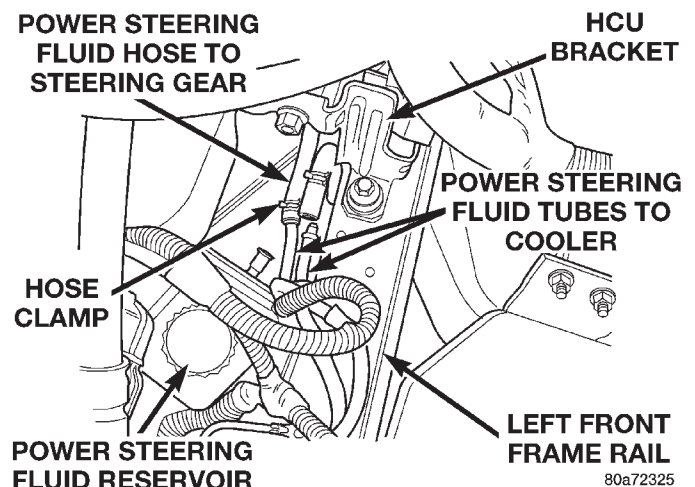

Fig. 28 Hose Attachment To Power Steering Cooler Tube
- (8) Move the power steering fluid reservoir forward (Fig. 28). This will allow access to the power steering fluid cooler lines located under the power steering fluid reservoir.
- (9) Remove power steering fluid hose going to steering gear, (Fig. 28) from power steering fluid tube going to power steering fluid cooler.
(5) Install the hose coming from the power steering gear (Fig. 28) on the power steering fluid cooler tube going to the power steering oil cooler (Fig. 28).